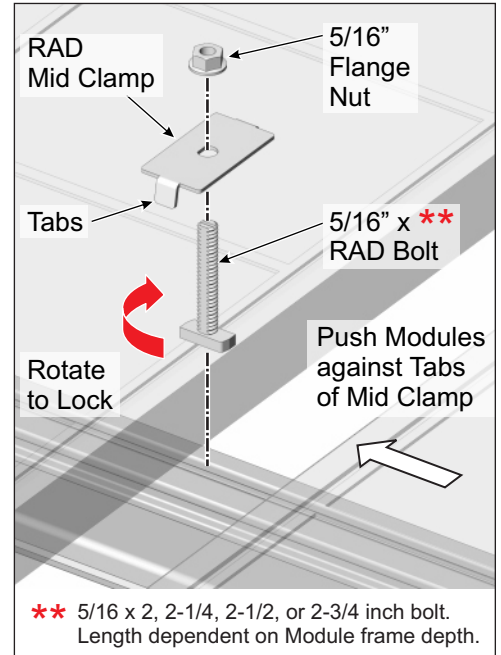

Figure 9-7: Installing Modules using RAD Mid Clamp
- C. Insert one 5/16" x 2, 2-1/4, 2-1/2, or 2-3/4" RAD bolt (bolt length is dependent on depth of Module frame) into each Rail, next to the previously installed exterior Module. Twist RAD bolt to lock in place. (See Figure 9-7)